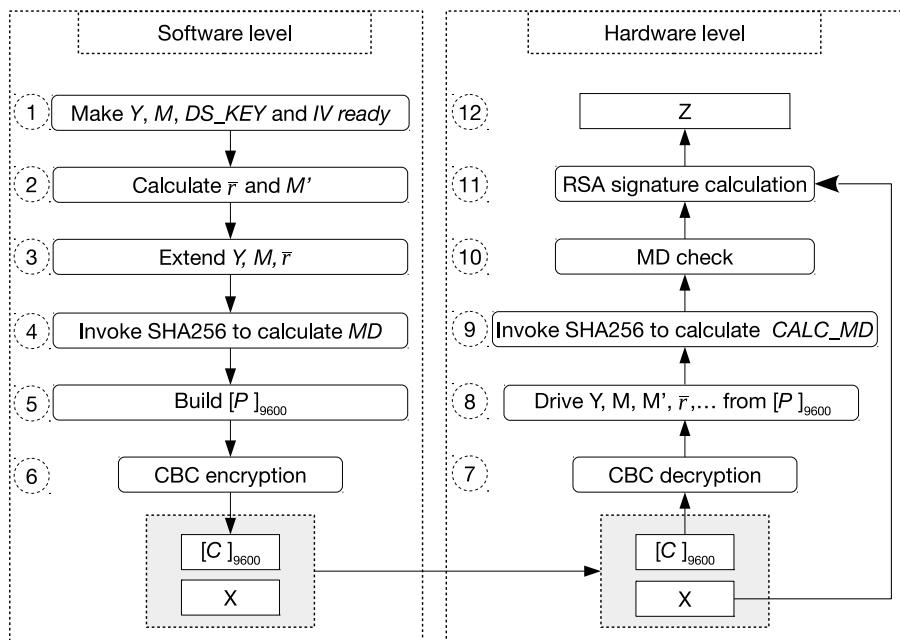

Figure 22.3-1. Software Preparations and Hardware Working Process
1. The software preparation (left side in the Figure 22.3-1) is a one-time operation before any signature is calculated, while the hardware calculation (right side in the Figure 22.3-1) repeats for every signature calculation.
You need to follow the steps shown in the left part of Figure 22.3-1 to calculate  $C$ . Detailed instructions are as follows:
### 1. Decryption: Step 7 and 8 in Figure 22.3-1
The decryption process is the inverse of Step 6 in figure 22.3-1. The DS module will call AES accelerator to decrypt  $C$  in CBC block mode and get the resulted plaintext. The decryption process can be represented by  $P = \text{AES-CBC-DEC}(C, DS\_KEY, IV)$ , where  $IV$  (i.e.,  $[IV]_{128}$ ) is defined by you.  $[DS\_KEY]_{256}$  is provided by HMAC module, derived from  $HMAC\_KEY$  stored in eFuse.  $[DS\_KEY]_{256}$ , as well as  $[HMAC\_KEY]_{256}$  are not readable by users. For more information, please refer to Chapter 19 HMAC Accelerator (HMAC).
### 2. Check: Step 9 and 10 in Figure 22.3-1
The DS module will perform two checks: MD check and padding check. Padding check is not shown in Figure 22.3-1, as it happens at the same time with MD check.
### 3. Calculation: Step 11 and 12 in Figure 22.3-1